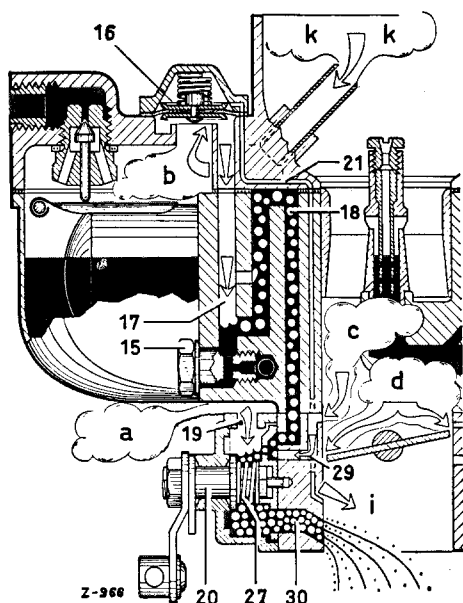

Fig. 07-0/15
As soon as the engine has warmed up a little, the starter knob can be pushed in halfway. As a result, the starter rotary slide valve is turned toward the right via the starter lever; the graded bore (33) in the slide valve is covered by the sealing surface (35) on the starter flange (see Fig. 07-0/12). Since the starter mixing chamber (27) is no longer connected with the fuel canal (18) by the bore (33), but only by the fine-grained bore (32) in the starter rotary slide valve, the amount of fuel admitted is greatly decreased and the start mixture is leaned out further. Fig. 07-0/15 shows the mode of action of the starter mechanism during warming-up.